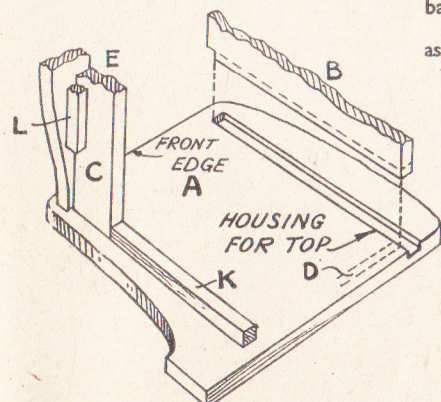

Fig. 2—Under view of parts
back panel to the ends are kept well in from the edges of the latter. This is distinctly seen in the two constructional details Figs. 2 and 3.
Now the simplest way to form these grooves is by cutting them so that they run through at the back, as seen in Fig. 2. Where the top shelf is stopped off at the front, just before reaching the edge of the ends (A), the groove is cut down neatly with the chisel.
Along the front of rail (C) goes the front shaped rail (E). This is simply screwed on with its top edge flush with the top surface of rail (C), as seen in Figs. 2 and 4. Countersunk screws are again used here with heads filled.